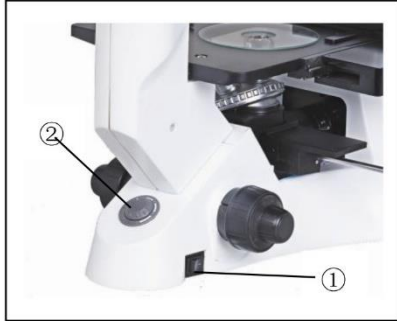

Figure 13
3.2.1. Turn power, adjusting brightness (Figure 13)